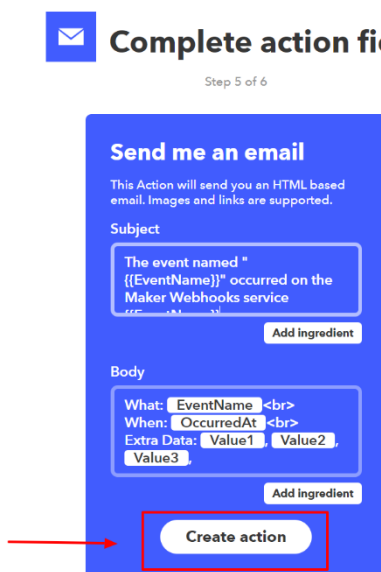

Figure 82: Make an IFTTT Applet Step 5
10. On the 'Complete action fields' screen, click the "Create action" button (Figure 82).